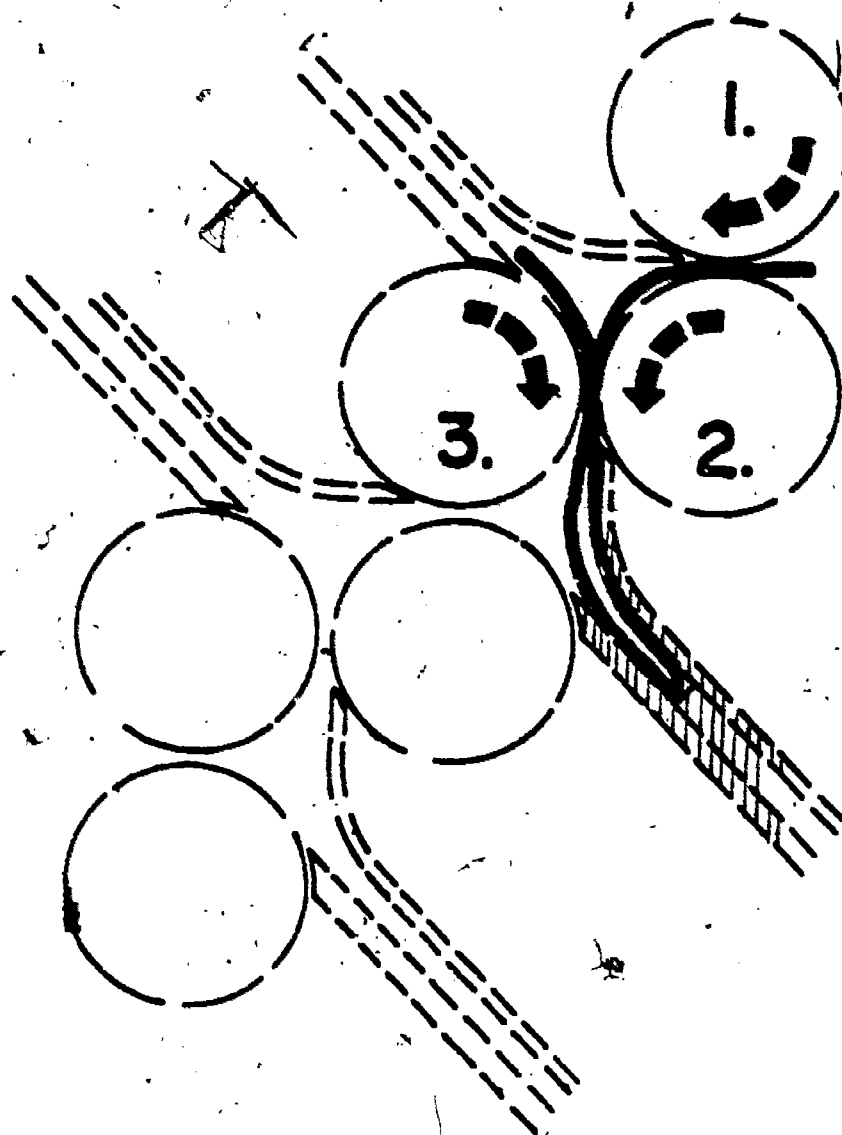

FIGURE 3. FOLDING PROCEDURE STEP 3.
c. Step 3. If according to imposition requirements a second fold is to be made using fold plate Number 2, the once folded sheet is driven by the Number 2 and 3 rollers into the Number 2 fold plate, the deflector having been raised until.... (See Figure 3)